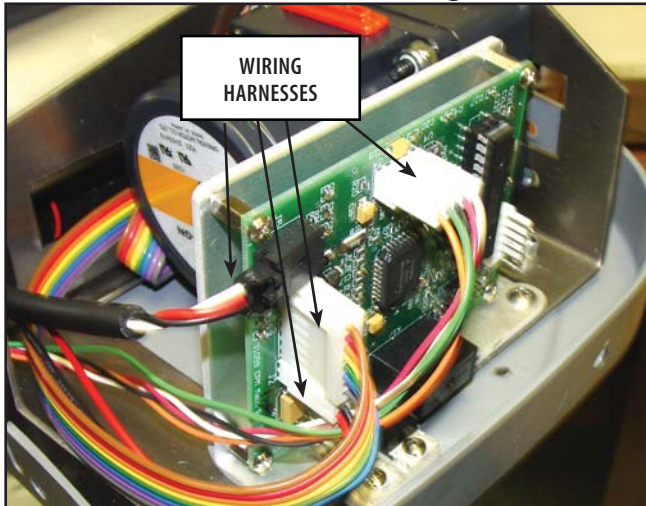

FIGURE 6.2
2. Disconnect the four wiring harnesses from the Control Board. **Refer to Figure 6.2.**